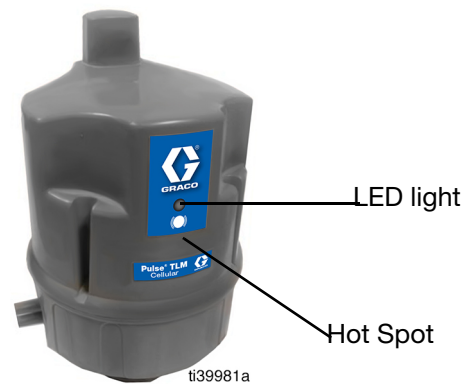

FIG. 1
1. Hold the magnet (supplied) to the Hot Spot directly under the LED to activate the device (FIG. 1).